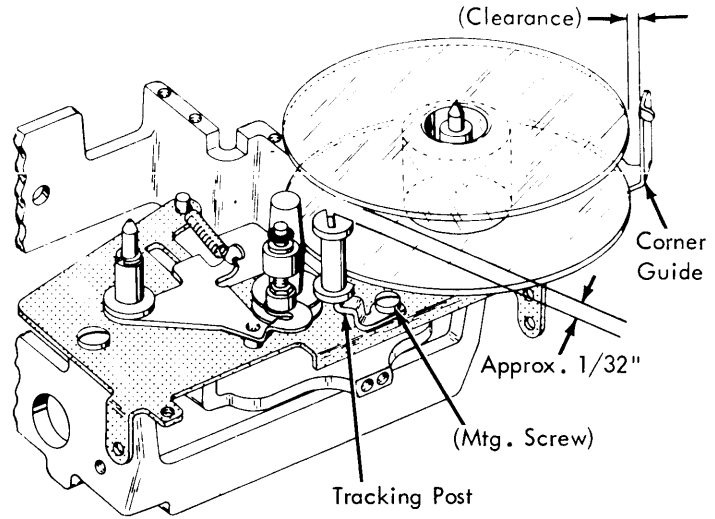

FIGURE 203. Corner Guide & Tracking Post
4. **Corner Guide** - The corner guide is aligned parallel to the feed roller at the factory and should not require adjustment unless damaged or replacement is necessary. If an adjustment is required the corner guide should be formed at the bottom so that it is vertical to the feed plate and clears both flanges of the take-up spool (Fig. 203).
- a. Position the tracking post under its mounting screw so that it clears the flanges of the transparent take-up spool by approximately 1/32" (Fig. 203).